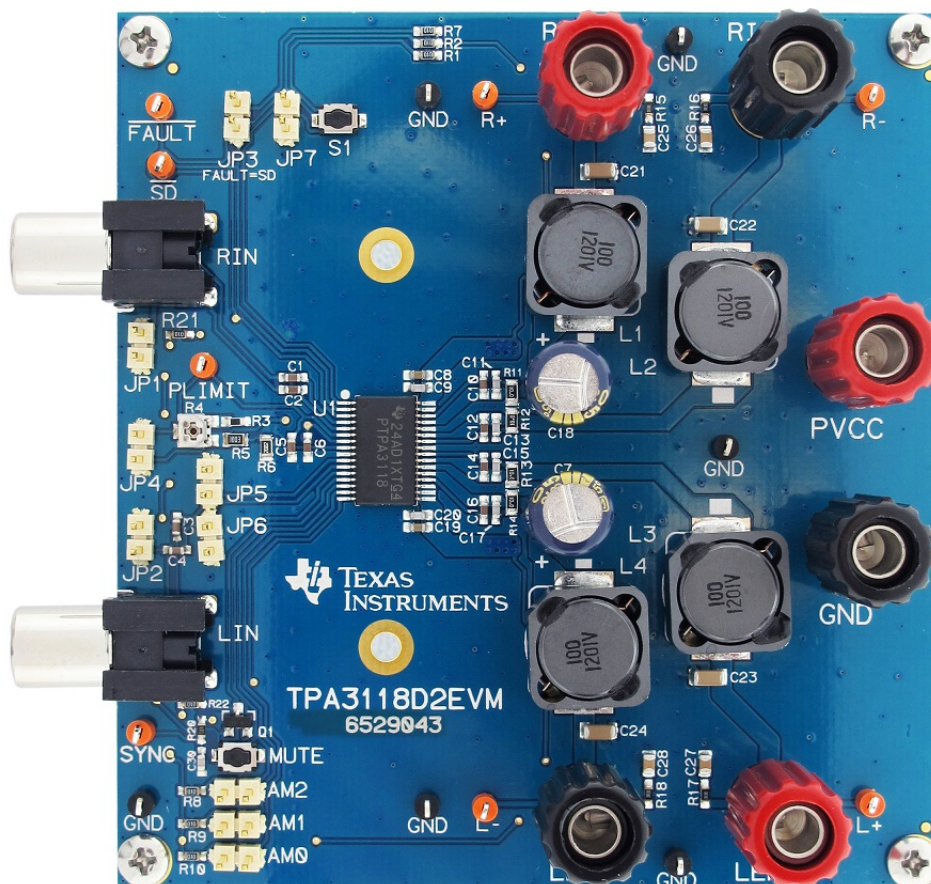
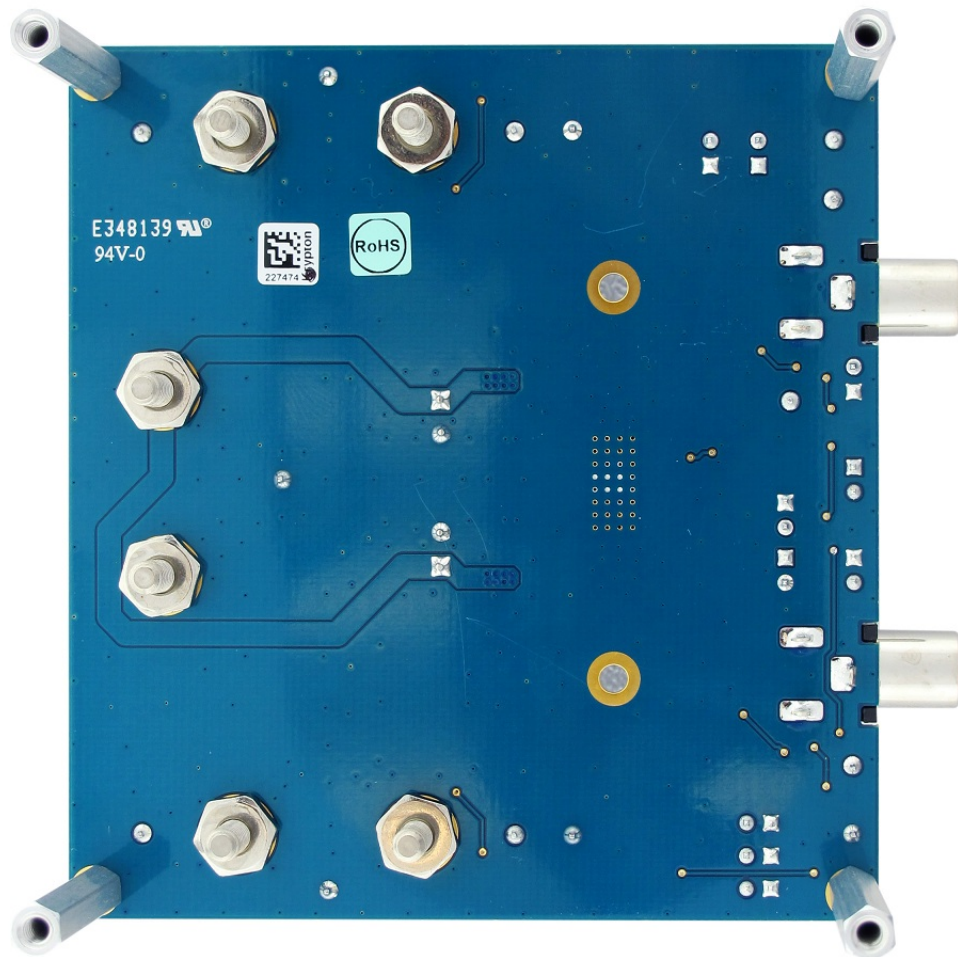

Figure 1. TPA3118D2EVM Photo, Top View
Figure 2. TPA3118D2EVM Photo, Bottom View
- 1 piece - TPA3118D2EVM board using one TPA3118D2 (illustrated in Figure 1 and Figure 2).